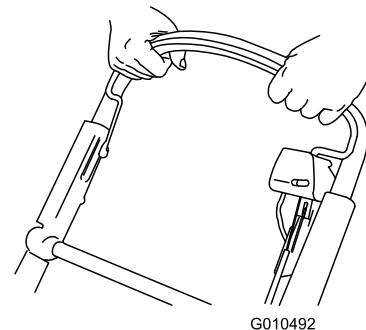

Figure 26
- Hold the blade-control bar against the handle (Figure 26).